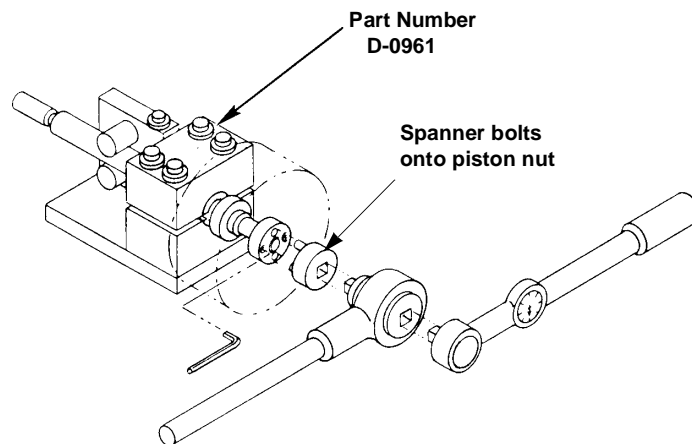

FIGURE 5-11: PISTON AND ROD CLAMPING FIXTURE
The Piston and Rod Clamping Fixture shown in Figure 5-11: on page 5-19 will be useful for the piston and rod disassembly and reassembly operations. This fixture may be purchased from Ariel.
1. Clamp the piston and rod assembly in the special Clamping Fixture (D-0961), using the bushing for a 1-1/8" rod size (see Figure 5-11:). Tighten the four 12-point cap screws to prevent the rod from turning. The fixture will properly hold the piston rod to prevent damage to the parts and promote safety during disassembly and reassembly. The Clamping Fixture must be securely bolted down to prevent it from turning with the piston rod. It should be at a convenient height of approximately three feet or 0.9 meters. Remove the setscrews from the piston nut. Although the piston nut has been staked to lock the setscrews, they can be forced out, by turning with an Allen wrench, past the small lip that has been formed.